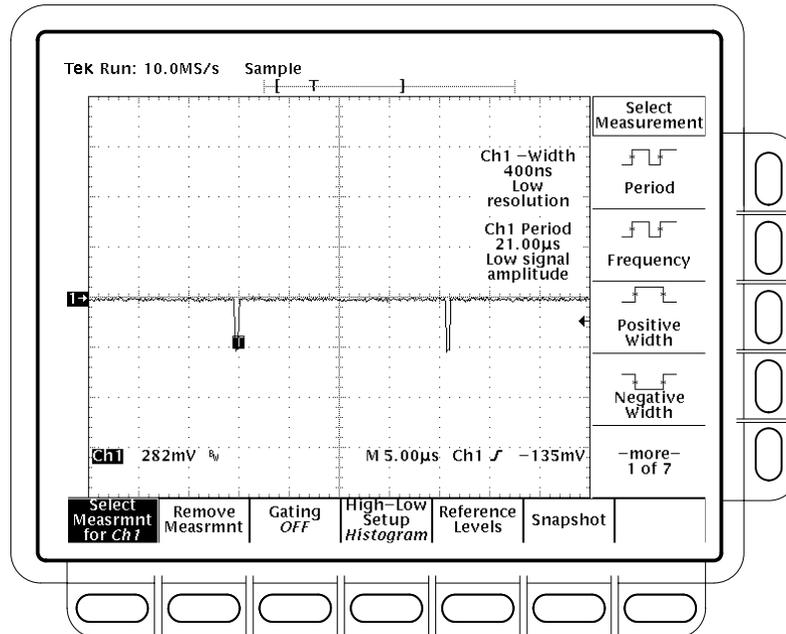

Figure 4-40: Sync duty cycle test: critically adjusted pulse
- Turn the pulse generator **PERIOD** variable control to adjust the period until the oscilloscope **CH1 Period** measurement reads **21.000µs -25/+50 ns**. See Figure 4-40. Read note shown below.